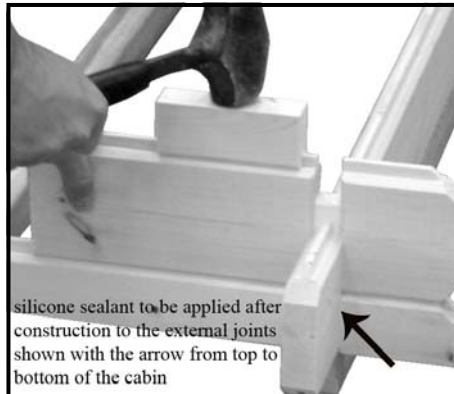

Fig E2
- Once gables are in place knock down all the walls again as in fig E2 to ensure all the walls are fully home